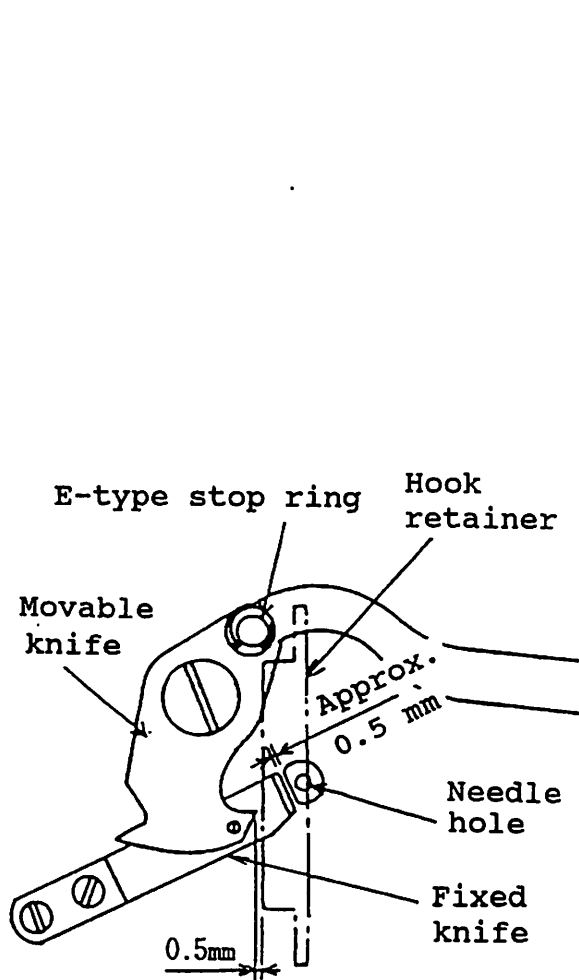
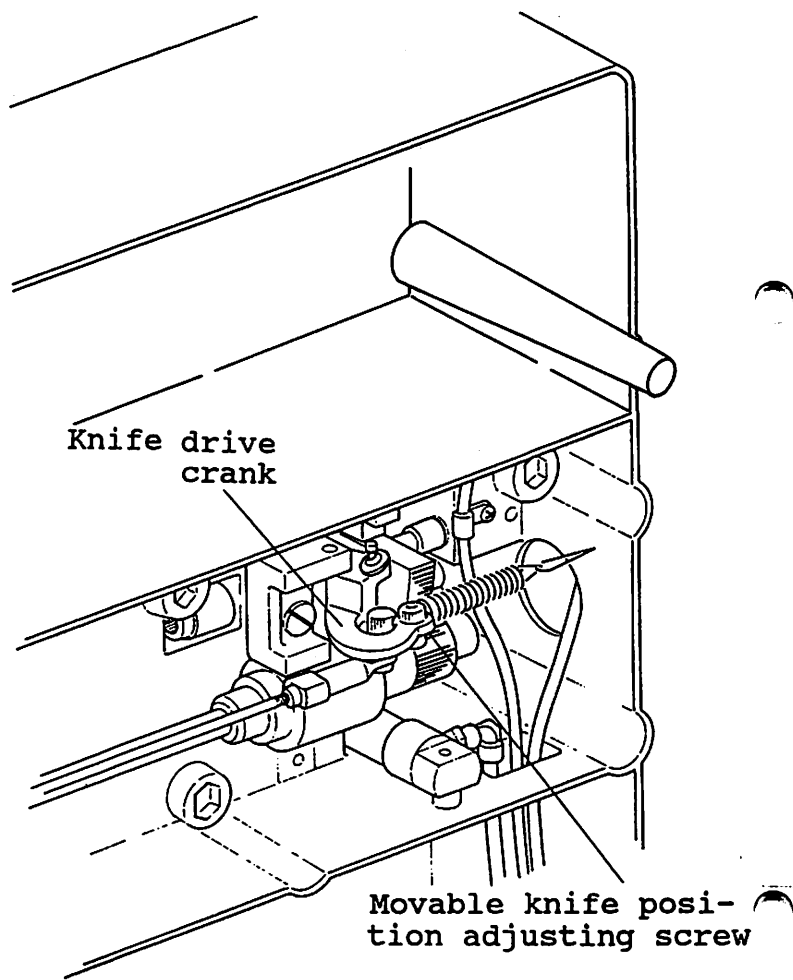

Fig. 9.26
Fig. 9.27
- (4) To remove the knife assembly, remove the E-type stop ring in Fig. 9.26, the feed plate shown in Fig. 7.1 and the four center slide plate set screws. The movable knife can be taken out together with the center slide plate.
- (5) To adjust the movable knife, loosen the movable knife position adjusting screw at the back of the bed and adjust the knife drive crank so that the end of the movable knife stops at a 0.5 mm distance, as shown in Fig. 9.26, from the hook retainer when the sewing machine is stopped. (See Fig. 9.27)